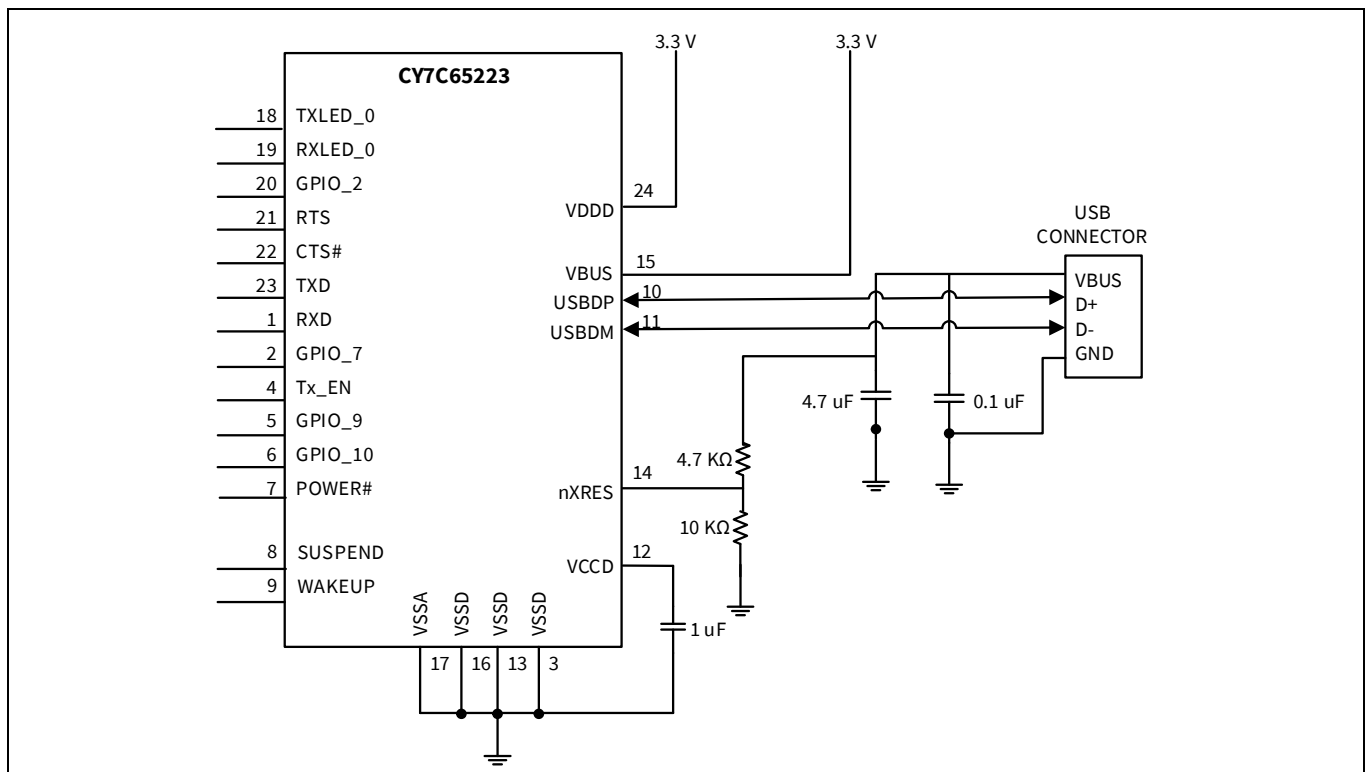

**Figure 4** Self-powered configuration
**Figure 4** shows an example of CY7C65223 in a self-powered design. A self-powered system does not use the VBUS from the host to power the system, but it has its own power supply. A self-powered system has no restriction on current consumption because it does not draw any current from the VBUS.